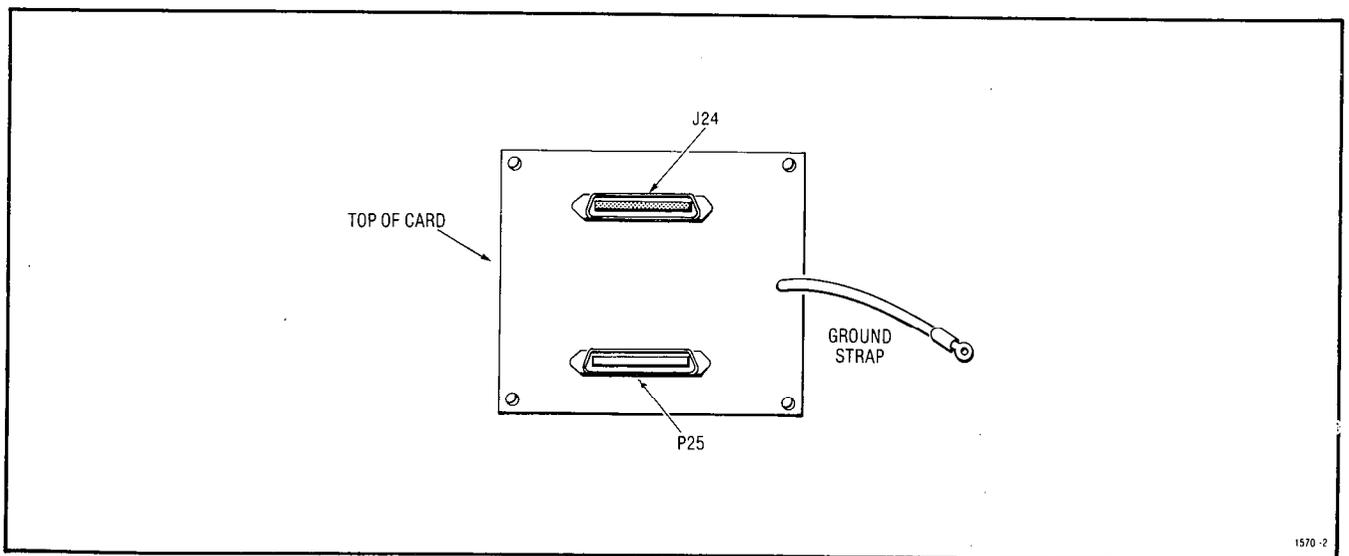

Fig. 2-7 SX-200 Console Interface Card
2.20 The Console Interface Card (Fig. 2-7) provides static protection for the SX-200 system against discharges to the console and console cable. This protection is achieved by placing a series of transient voltage suppressors between the console connections and a chassis ground. Any transient voltages will be routed to the ground.